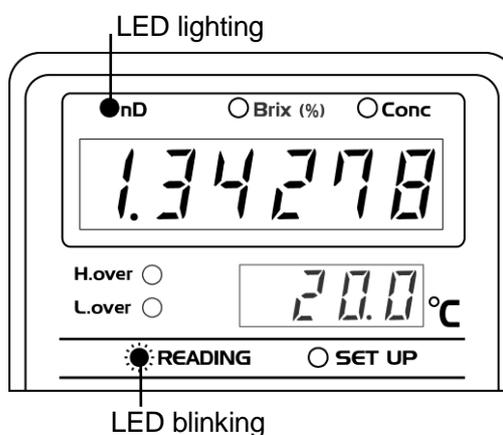

Fig. 10-1
- ① During measurement, the **READING** light blinks and the display will show nD readings (Fig. 10-1).